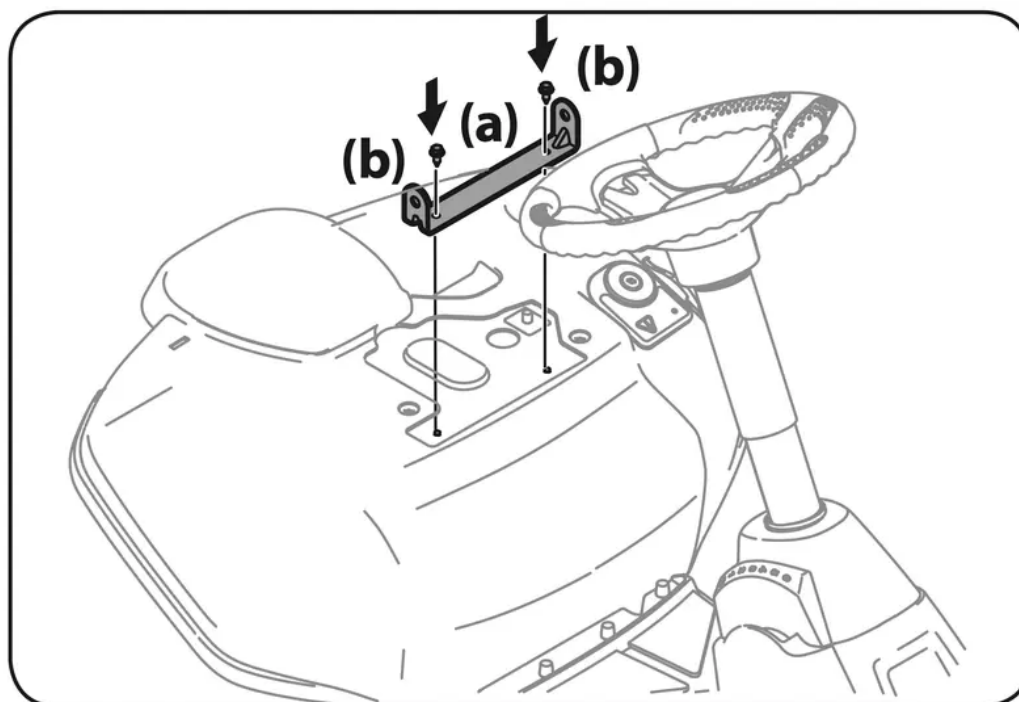

Figure 6
3. Align the seat bracket (a) in place over the holes from where the self-tapping bolts (b) were removed, as shown in Figure 6.
- Using a 1/4" drive ratchet with a 3/8" socket, secure the seat bracket (a) with the self-tapping bolts (b) removed in step 2. See Figure 6.